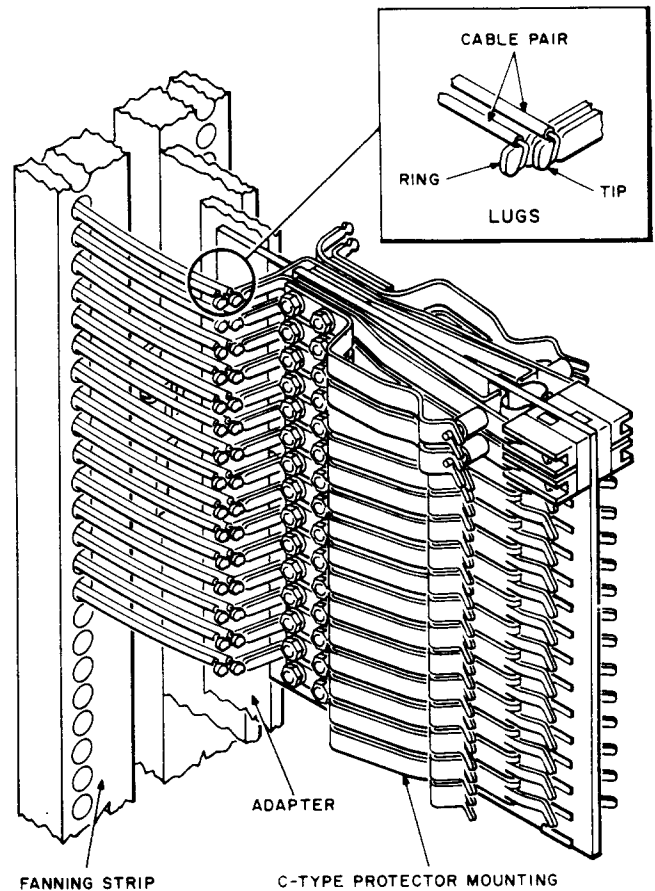
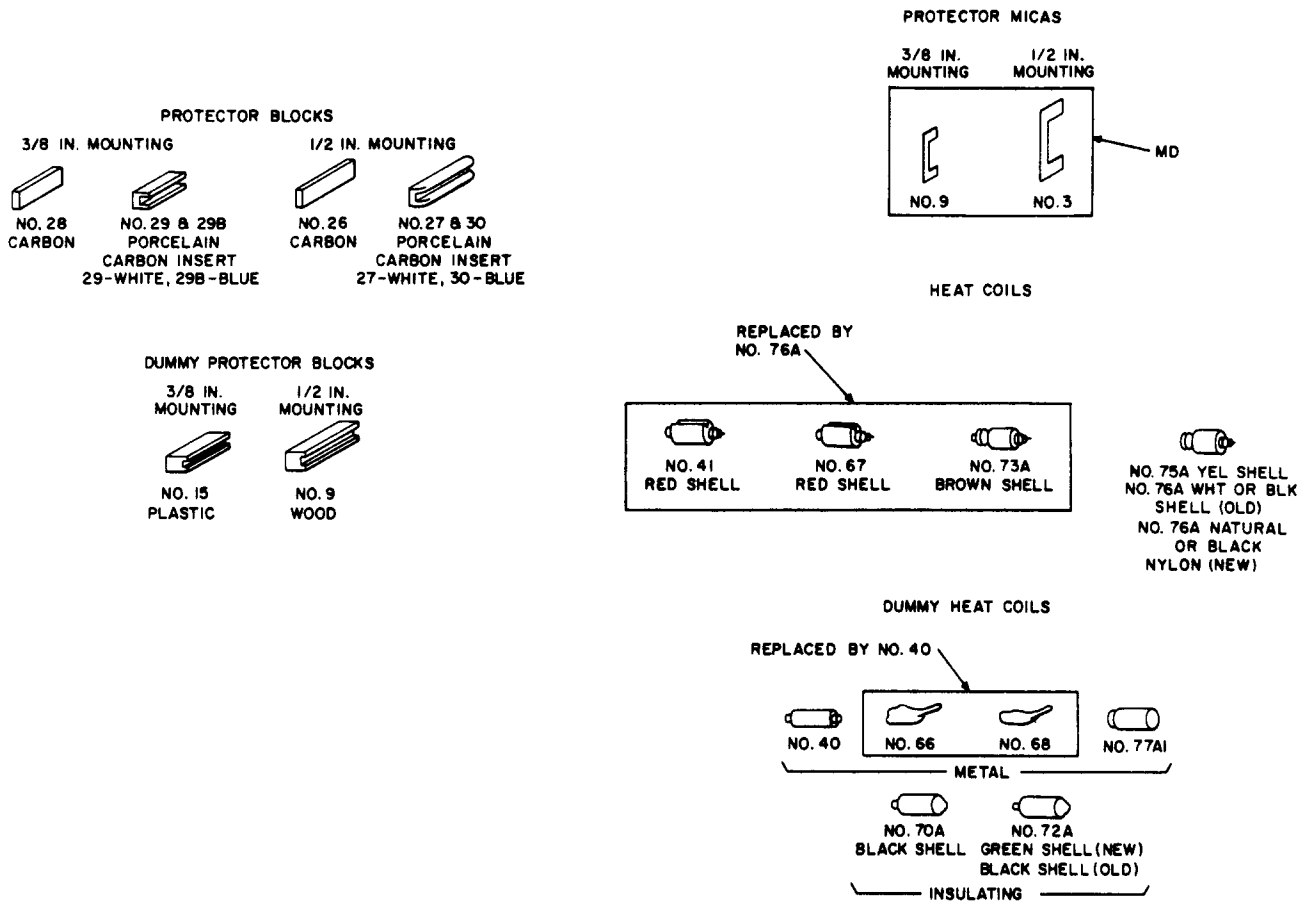

Fig. 1—C-Type Protector Mounting
Fig. 10—Types of Protector Blocks and Heat Coils
- 2.01 The C-type protector mounting is shown in Fig. 1.
2.07 Figures 1 through 8 show the makeup of the usual types of B-type frame protector mountings. Figure 10 shows the various types of protector blocks and heat coils, including some early types still in use. Table A lists the standard types of heat coils and protector blocks and the corresponding older types.